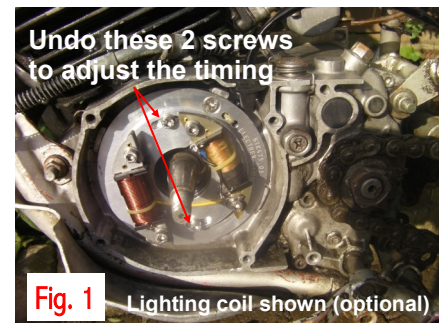

Fig. 1 Lighting coil shown (optional)
- Step 2** Remove original stator and fit new stator, see fig 1. Use x2 M6 counter sunk screws provided.
- Step 5** The timing can be adjusted by altering the screws as labelled in fig 1. For more precise setting information see below.
- Start the engine and using a strobe it is possible to observe the maximum advance position, if the timing is correct the wire should align with the FA position. If not, advance or retard the stator plate by adjusting the two screws - see fig 1.